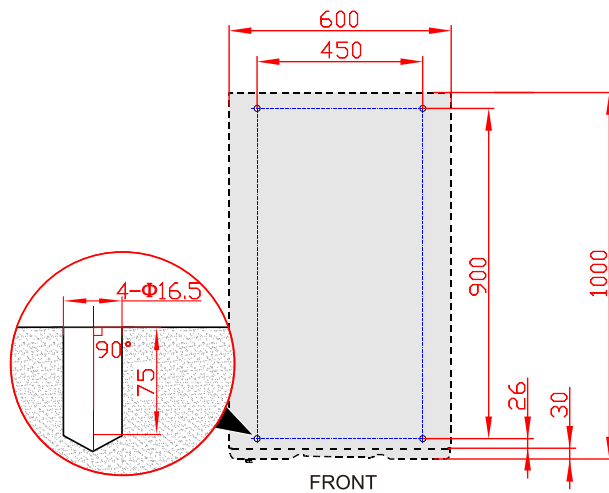

Figure3-17 Bottom installation size (bottom view of pedestal)
- Step 2 Drill 4 holes of $\Phi 16.5$ by hammer drill according to the installation size of pedestal (as shown in Figure3-17).